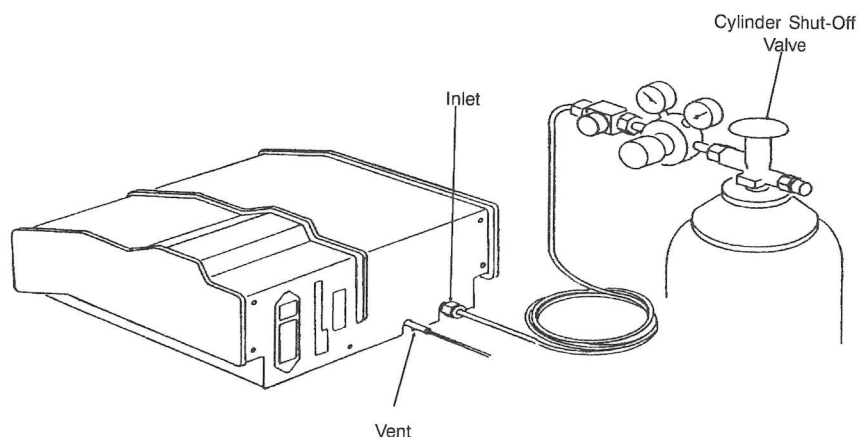

Figure A-1. Turning Off Gas Supply
4. Disconnect the gas supply line from the rear panel of the pycnometer by turning the nut on the INLET connector counterclockwise with a 7/16 in. open-end wrench (refer to Figure A-1).